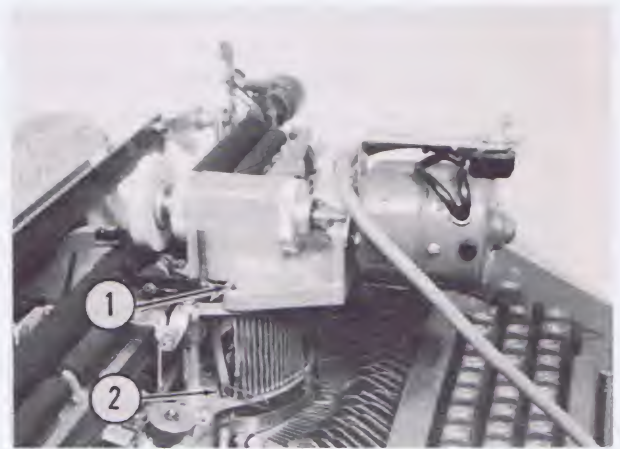

FIGURE 70 HAMMER FACE RESURFACER
14. *Hammer Face Resurfacing (Figure 70)*